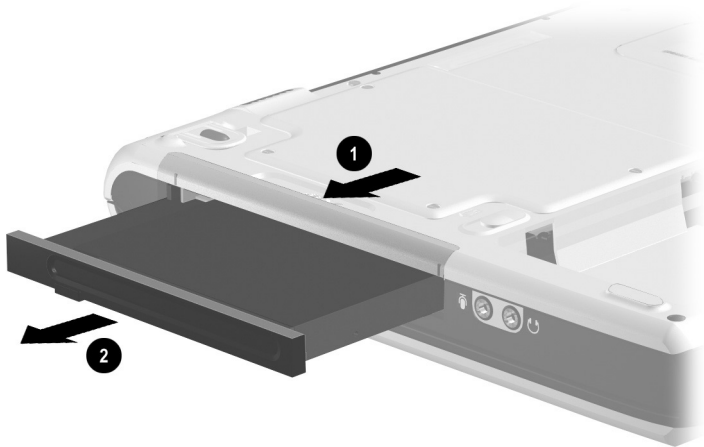

Figure 5-3. Removing the Future Bay Device
- b. Slide the Future Bay release bezel forward ❶. The Future Bay device separates from the base enclosure (Figure 5-3).
- c. Remove the Future Bay device from the base enclosure ❷.